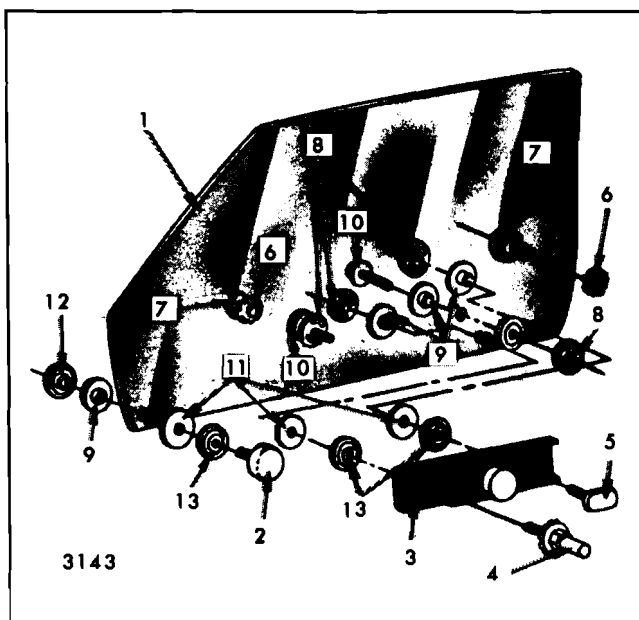
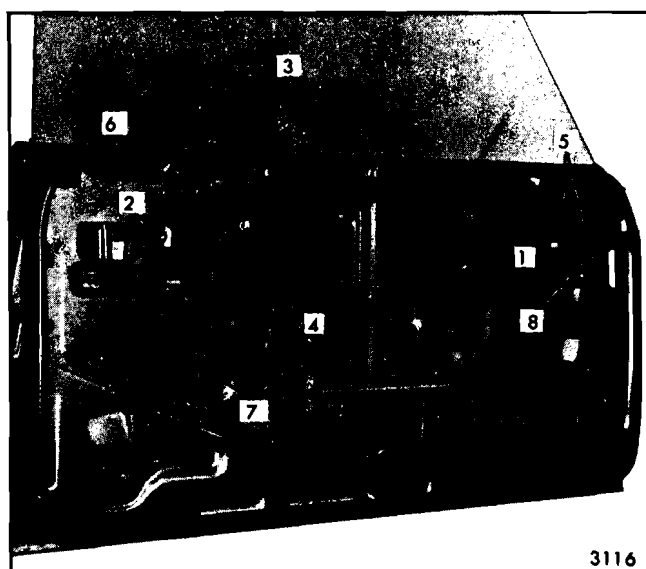
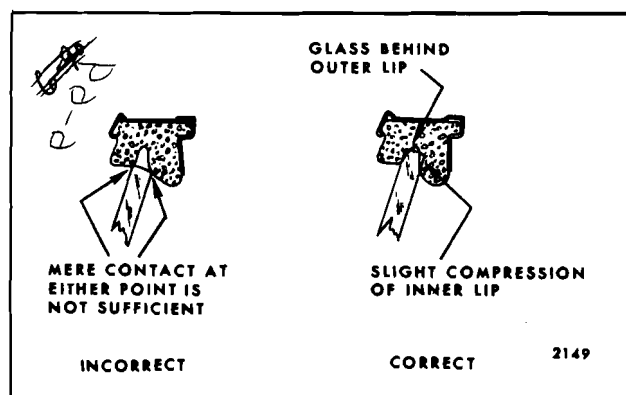

Fig. 6-87—Front Door Window Assembly - "B and C-37, 47, 57, and 67" Styles
Fig. 6-88—Window Removal and Adjustments - "B and C-37, 47, 57 and 67" Styles
Fig. 6-89—Window to Side Roof Rail Weatherstrip Alignment
Figure 6-87 is an exploded view of the window assembly and identifies the various components and their assembly sequence.
2. Loosen front up-stop bolt ("1", Figure 6-88) and remove stop from front guide.
3. Remove rear up-stop from rear guide ("2", Figure 6-88).
4. Remove window stabilizer strip assembly bolts ("3", Figure 6-88) and remove stabilizer strips.
5. Remove window lower sash channel cam to glass attaching stud nuts ("4", Figure 6-88).
by the in and out adjustment available at the top of the front and rear guides ("5", and "6", Figure 6-88) and the in and out position of the glass stabilizer strip assemblies "3".
2. Fore and aft adjustment of the window assembly is controlled by the position of the front guide. The upper attaching locations in the inner panel ("8", Figure 6-88) are slotted to permit fore and aft adjustment of the guide. Because of the free floating roller in the window rear sash channel cam (Figure 6-87), the rear guide does not have to be adjusted during fore or aft window alignment.
3. Ease of window operation and window stability depend to a great extent on the adjustment of the window stabilizer strip assemblies at the beltline ("3", Figure 6-88). The stabilizing strips "3" should contact the glass throughout the full cycle of the window. Due to slight variations in glass contour, however, in some cases the strip may lose contact with the glass halfway through the cycle. This is permissible provided it does not result in loose glass. Contact should be sufficient to stabilize glass, but not restrict ease of window operation.
4. A window that is rotated (cocked) in the window opening may be the result of an improperly adjusted inner panel cam ("7", Figure 6-88) or poorly adjusted up-travel stops ("1" or "2", Figure 6-88).
Correct a poorly adjusted inner panel cam by loosening cam attaching bolts ("7", Figure 6-88), and adjusting front end of cam up or down as required. Adjustment of cam repositions front edge of glass up or down in relation to rear edge of glass.
5. The up-travel of the window is determined by the adjustment of the front and rear up-stop ("1" and "2", Figure 6-88). To adjust window up-travel, loosen front and rear up-stops and operate window to desired position to establish proper glass to side roof rail weatherstrip contact (Figure 6-89).